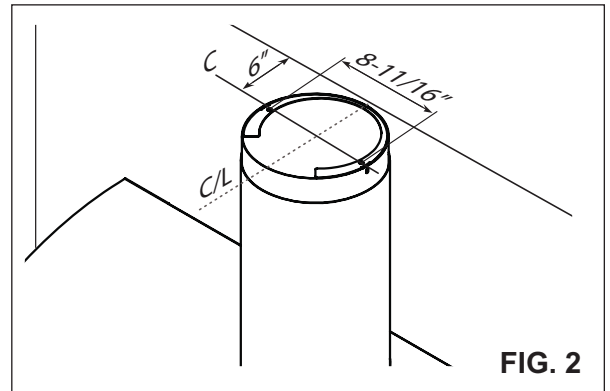

FIG. 2
4. Follow center line up to the ceiling, measure and mark ceiling bracket mount line C, 6" out from the wall onto the ceiling. FIG. 2
5. Mark ceiling bracket mounting spread, 8-11/16" from center line on line C. FIG. 2
8. Attach ceiling bracket to ceiling by (2) M4 * 1-1/2" screws. Wood blocking may need to be added inside ceiling to support the weight of the upper duct cover.